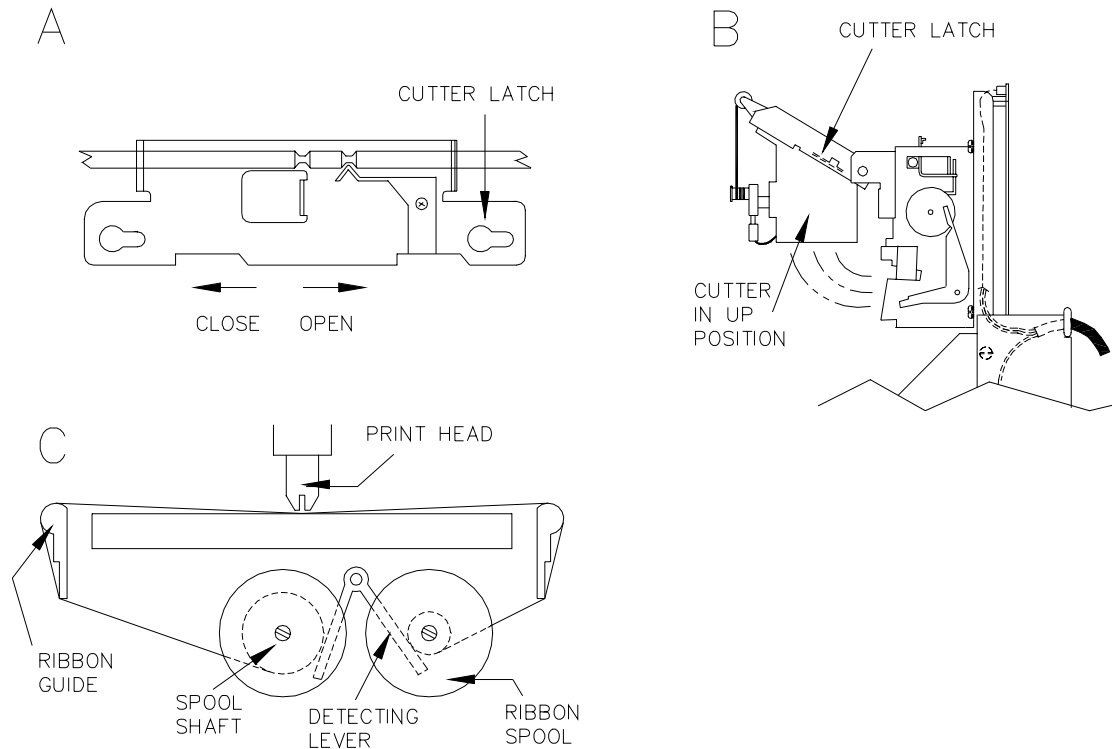

Figure 3-2. Ribbon Installation Sequence
2. Slide the cutter latch on the paper cutter unit to the right and swing the paper cutter up (Figure 3-2 A and B).
4. Pull one spool off of the shaft while pushing the ribbon detecting lever out of the way (Figure 3-2 C). Repeat for the other spool.
1. Place the ribbon spool onto the left shaft with the spool-driving pins pointing toward the printer (Figure 3-2 C).
5. Return the paper cutter unit to the normal position and slide the cutter latch to the left to lock (Figure 3-2 A).